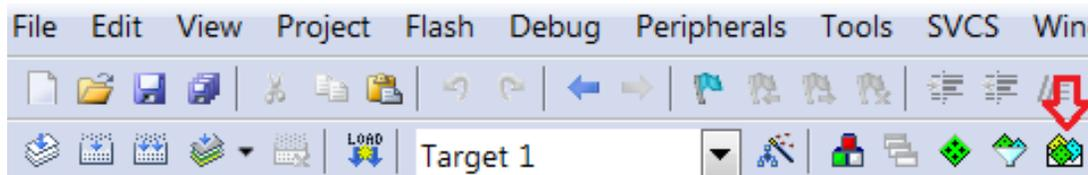

Figure 20. Pack Installer Icon
2. Open the Keil μ Vision IDE and navigate to **Project > Manage > Pack Installer** or click on the icon shown in the "Pack Installer Icon" figure (Figure 20).